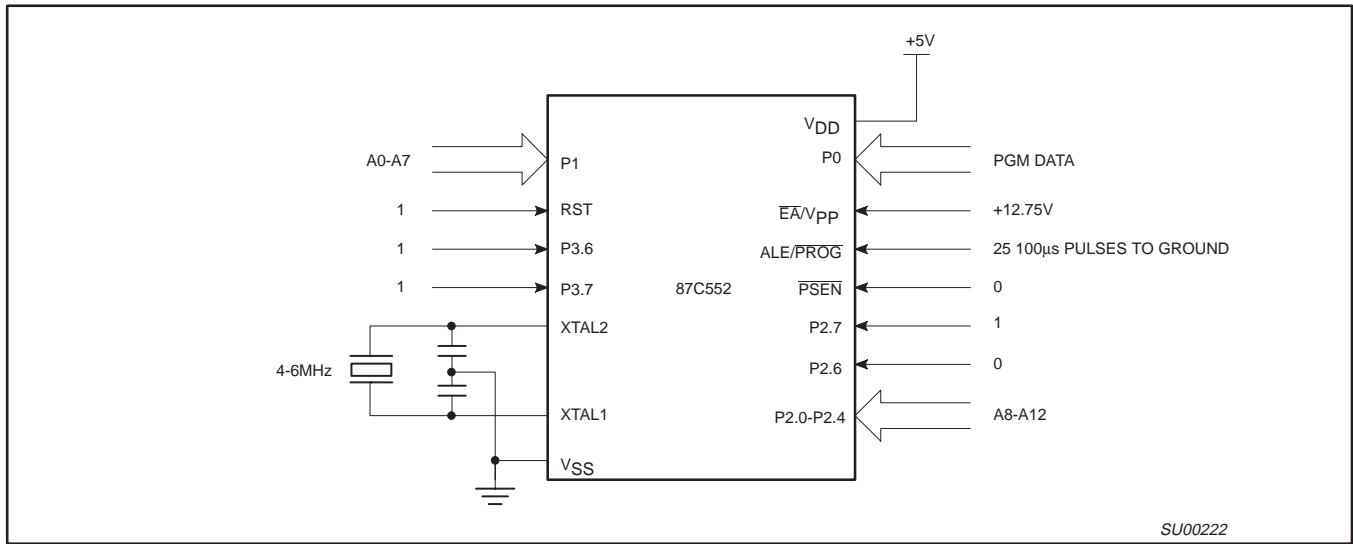
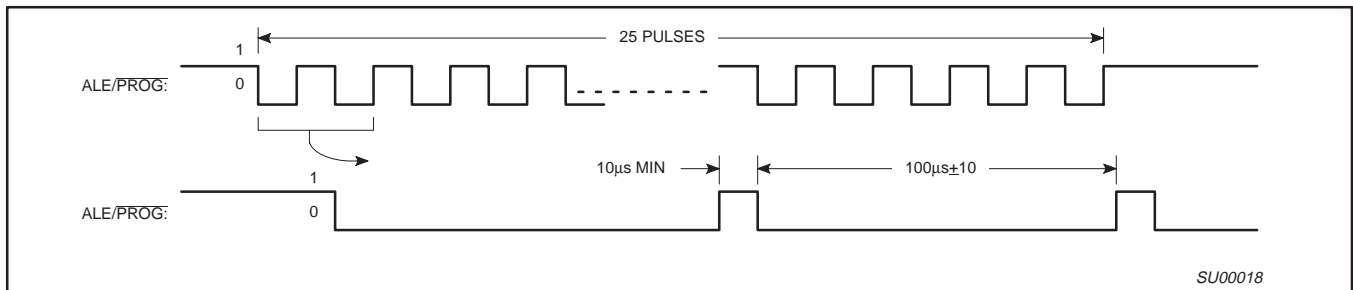
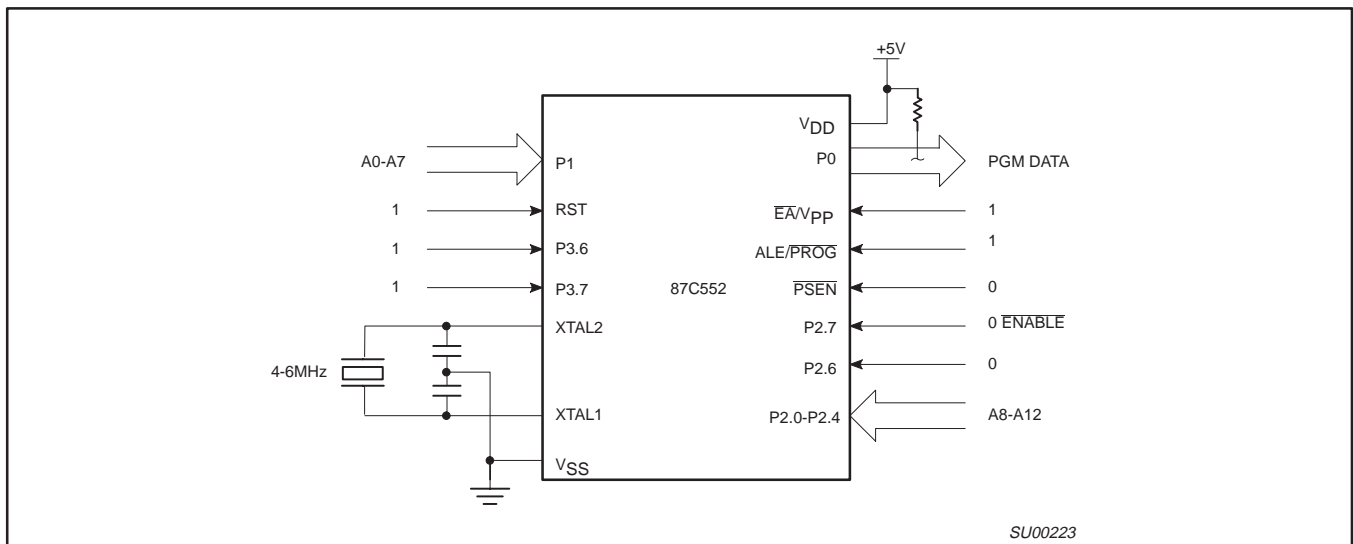

Figure 15. Programming Configuration
Figure 16. PROG Waveform
Figure 17. Program Verification
Table 3 shows the logic levels for reading the signature byte, and for programming the program memory, the encryption table, and the lock bits. The circuit configuration and waveforms for quick-pulse programming are shown in Figures 15 and 16. Figure 17 shows the circuit configuration for normal program memory verification.
The setup for microcontroller quick-pulse programming is shown in Figure 15. Note that the 87C552 is running with a 4 to 6MHz oscillator. The reason the oscillator needs to be running is that the device is executing internal address and program data transfers.
The address of the EPROM location to be programmed is applied to ports 1 and 2, as shown in Figure 15. The code byte to be programmed into that location is applied to port 0. RST, PSEN, and pins of ports 2 and 3 specified in Table 3 are held at the "Program Code Data" levels indicated in Table 3. The ALE/PROG is pulsed low 25 times as shown in Figure 16.
If lock bit 2 has not been programmed, the on-chip program memory can be read out for program verification. The address of the program memory locations to be read is applied to ports 1 and 2 as shown in Figure 17. The other pins are held at the "Verify Code Data" levels indicated in Table 3. The contents of the address location will be emitted on port 0. External pull-ups are required on port 0 for this operation.
* FOR PROGRAMMING VERIFICATION SEE FIGURE 17.